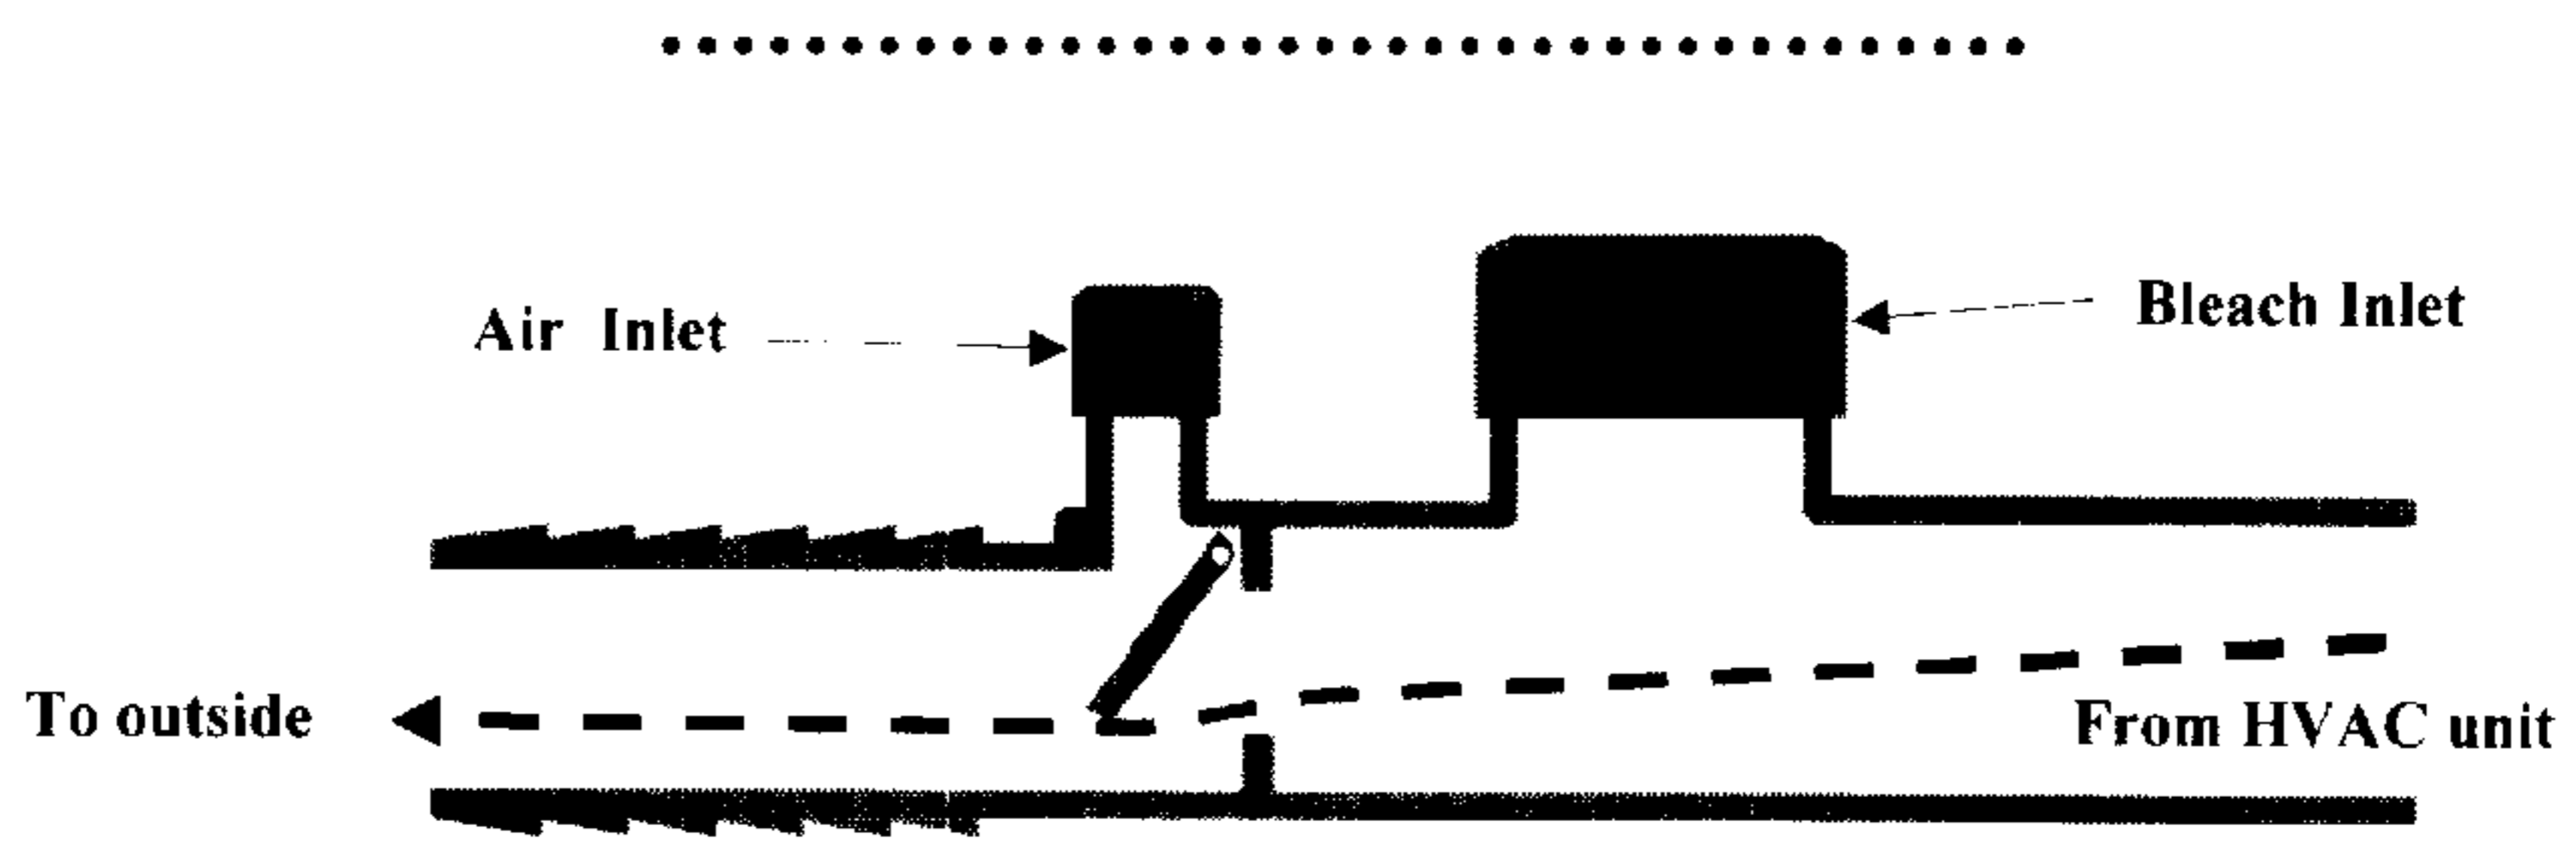

FIG. 8: NORMAL CONDENSATE FLOW: through Enviro-Clean Valve
8. FIG. 8: Condensate Flow through Enviro-Clean Valve